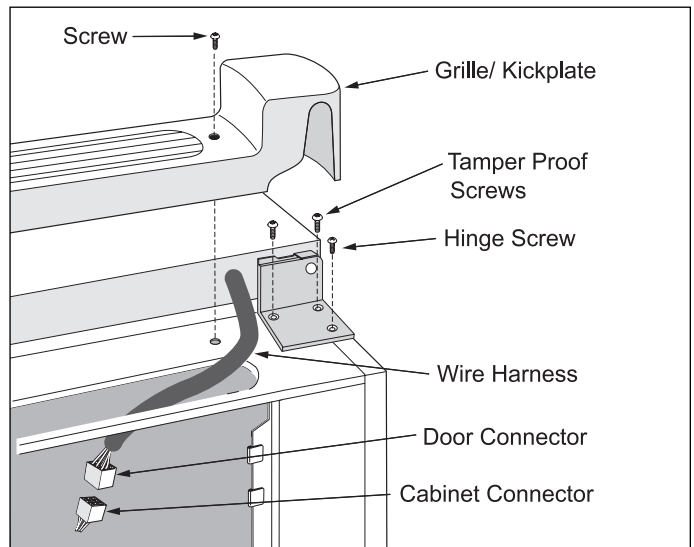

Figure 2-5. Bottom Hinge Removal
5. Remove the grille/kickplate by extracting the screws from each end of the grille/kickplate. Remove wire from clips on bottom of cabinet. (See Figure 2-5)